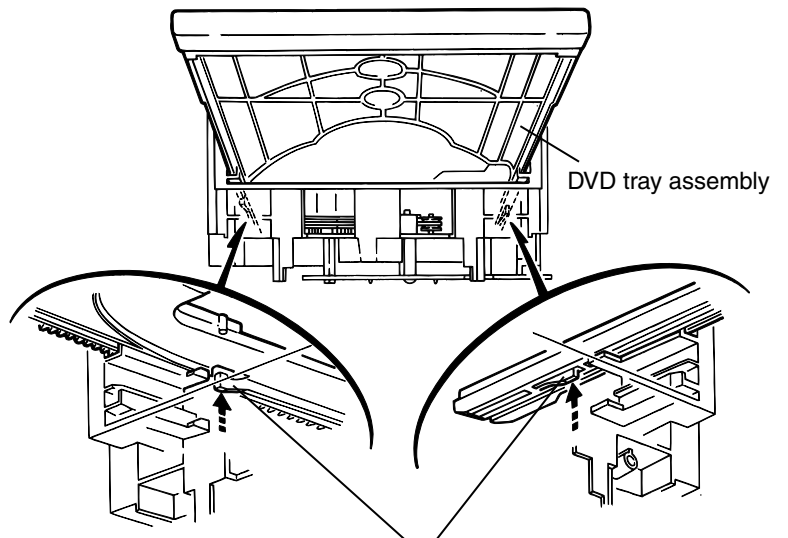

Fig.9 Pawl g, g'
12. At the position where the DVD tray assembly has stopped, pull out the DVD tray assembly while pressing the two pawls **g** and **g'** on the back side of DVD tray assembly (See Fig.9). In this case, it is easy to pull out the assembly when it is pulled out first from the stage DVD tray assembly.